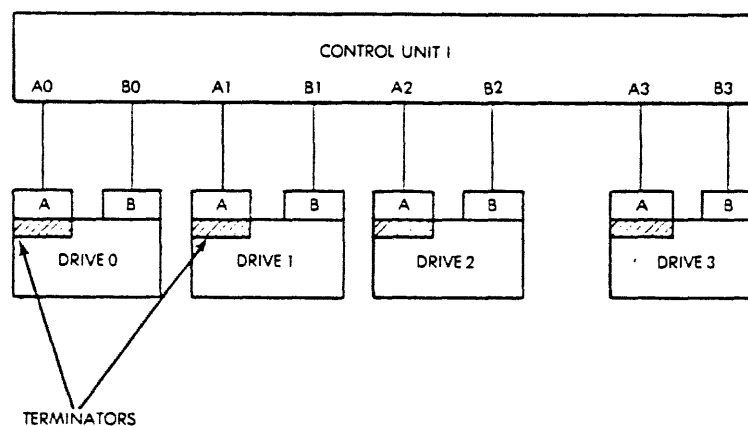

Figure 8-8. 9761 Radial Cabling, Single Channel
4. install terminators at CNP42 on each drive (Figure 8-8).